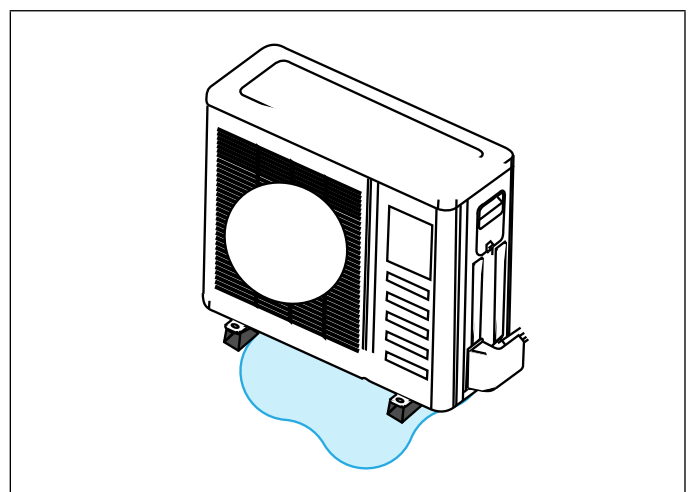

Figure 22. Avoid Defrost Water Ice Hazard
- Carefully consider how to manage defrost water disposal to prevent ice from blocking walkways or creating a safety hazard near the outdoor unit as illustrated in “Figure 22. Avoid Defrost Water Ice Hazard”